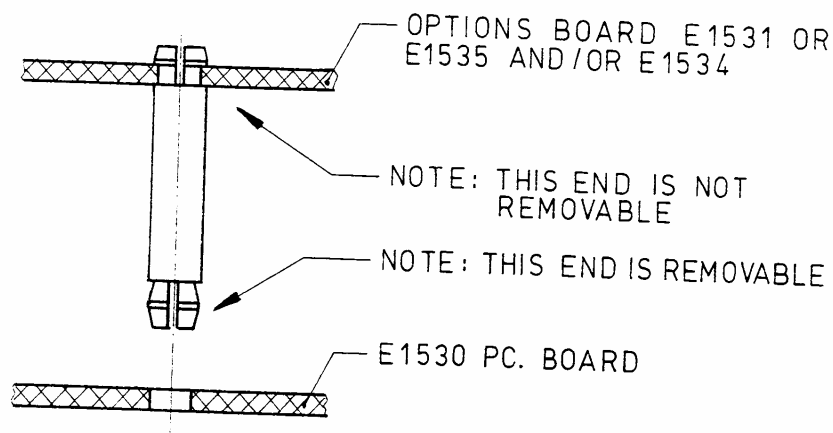

Figure 14.2.2 Proper Installation of Nylon Spacers
The E1530 PC board is mounted on five standoffs with #6 hardware. **Quite often other optional PC boards such as adjustable jog speed board (E1534), signal isolator (E1531) or tach/voltage follower (E1535) may be stacked on the E1530 PC board.** These boards, when included, are stacked on E1530 PC board using nylon snap-on type spacers. The nylon spacers are designed in such a way that only the end that is inserted into the E1530 PC board is detachable, while the other end once inserted into the option board remains permanently attached. Refer to Figure 14.2.2 If the SC unit is equipped
On certain SC units **shipped before May, 1981**, the nylon spacers were installed in exactly the opposite manner shown in Figure 14.2.2, i.e., the permanently attached end is inserted into the E1530 PC boards. In this case, along with the replacement for E1530 PC board, four nylon spacers (E. F. Johnson part no. 115-0260-009) for each of the above mentioned options should be ordered from polyspede and these spacers should be correctly installed as shown in Figure 14.2.2.
- (c) Four nylon snap-on type spacers are supplied with the E1531 replacement. Before mounting the new board, insert the permanent end of these spacers into the mounting holes. Refer to Figure 14.2.2.
- d) Four nylon snap-on type spacers are supplied with the E1534 replacement. Before mounting the new board, insert the permanent end of the spacers into the mounting holes. Refer to Figure 14.2.2.